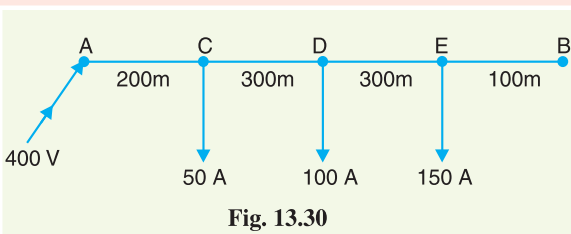

Fig. 13.30
**Drops due to concentrated loads.** Fig. 13.30 shows only the concentrated loads tapped off from the various points. The currents in the various sections are :